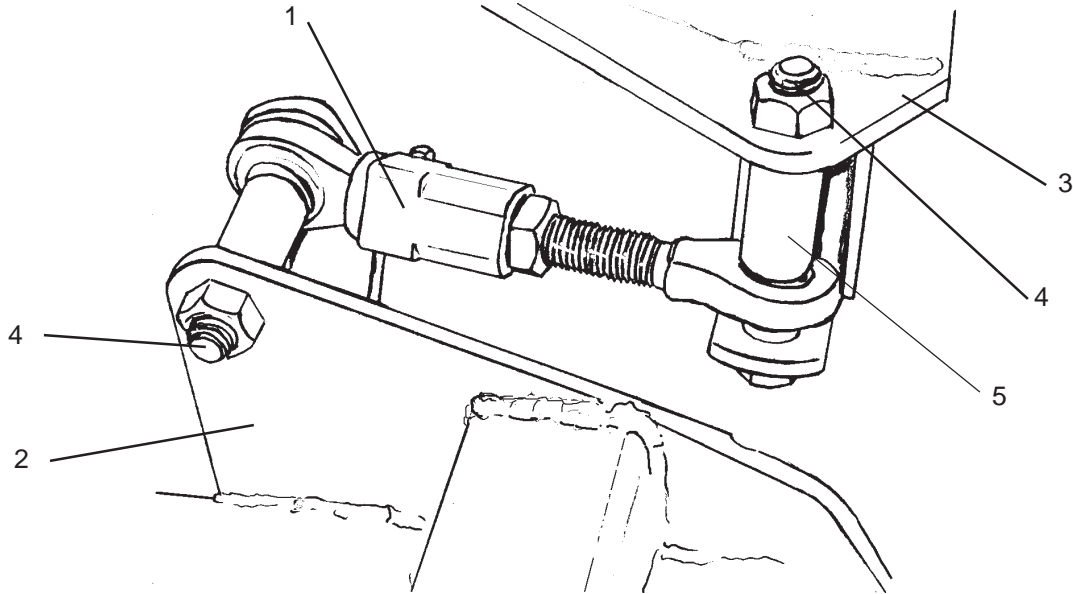

FIGURE 7. Axle Adjustment Rod Attachment
Attach the Axle Adjustment Rod w/Bushings (1) to the Center Axle (2) and Wing Axle (3) with bolts and locknuts (4). Install Spacers (5) as shown. **FIGURE 7.**